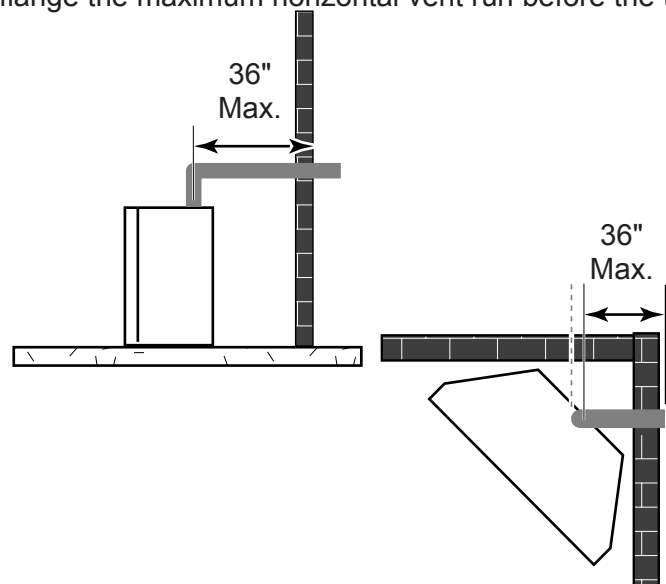

Figure 22 - Maximum Horizontal Run with No Rise
- If a 90° elbow is fitted directly on top of the fireplace flange the maximum horizontal vent run before the termination or a vertical rise is 36" (914 mm). *Figure 22*